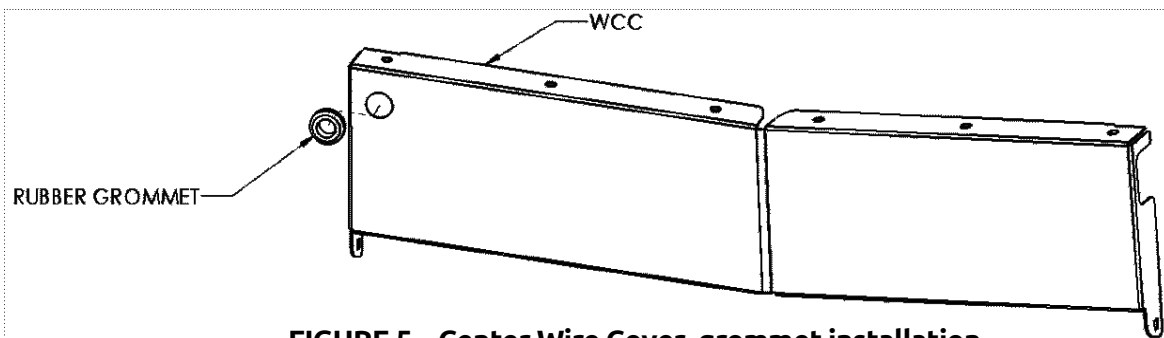

FIGURE 5 – Center Wire Cover, grommet installation
7. Install grommet in the hole in Center Wire Cover (FIGURE 5)